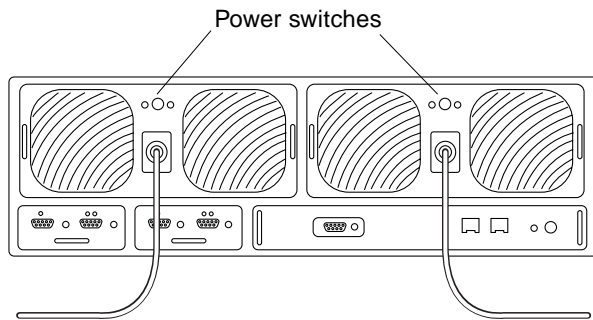

FIGURE 7-1 Power Cords Connected to the Power and Cooling Units
2. Power off the power and cooling unit by pressing the power switch (FIGURE 7-1).
4. Disconnect the power cord from the power and cooling unit connector by squeezing both sides of the connector and pulling straight out (FIGURE 7-1).